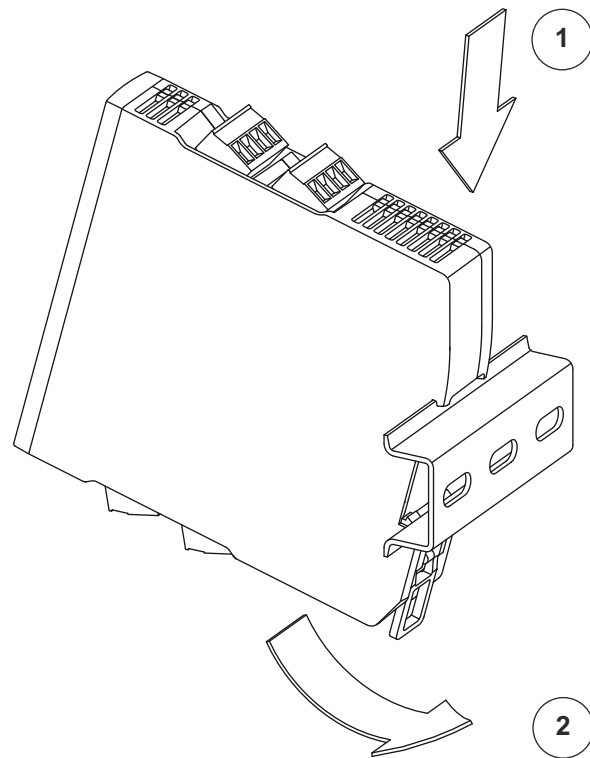

Figure 57: Mount the safety relay on the DIN rail.
2. Hang the top rear side of the safety relay on the DIN rail. See **Figure 57 (1)**.
3. Push the bottom rear side of the safety relay on the DIN rail until you hear a click. See **Figure 57 (2)**.